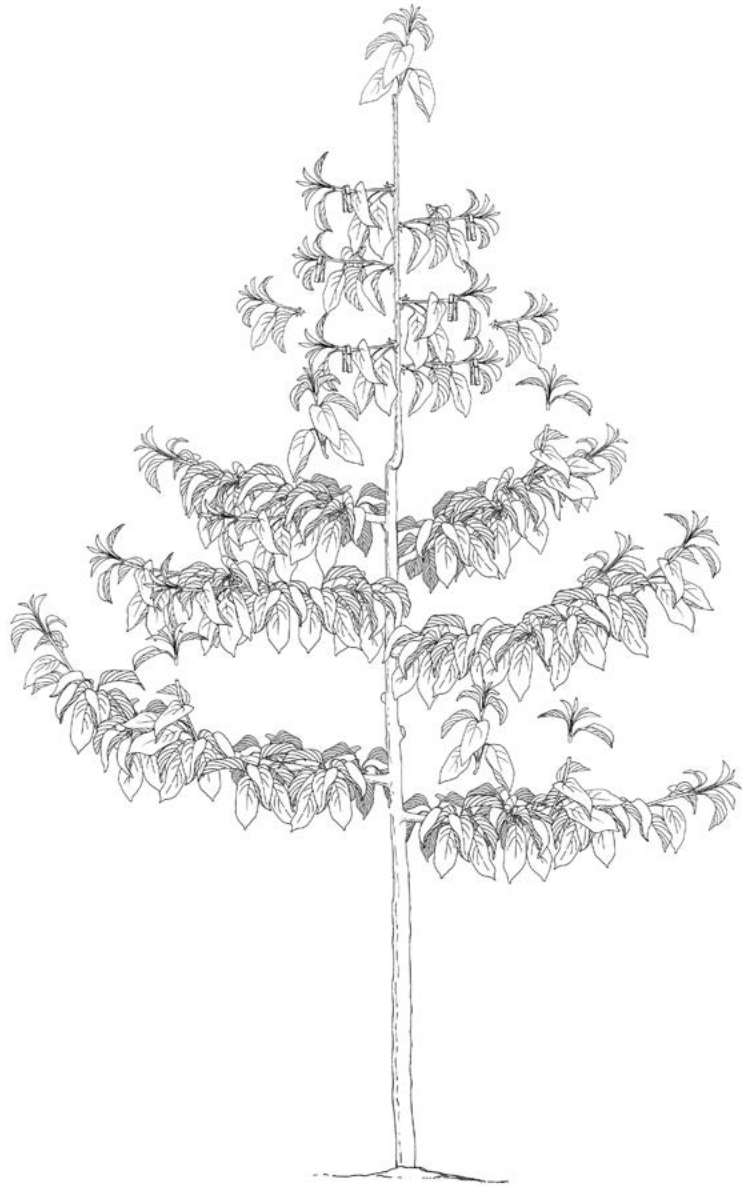

Figure 73
- If necessary, thin new shoots to promote good light distribution throughout the canopy (Figure 73).
- Pinch back vertical shoots growing from primary laterals. Remove vertical shoots completely if they grow within a few inches of the trunk (Figure 73).